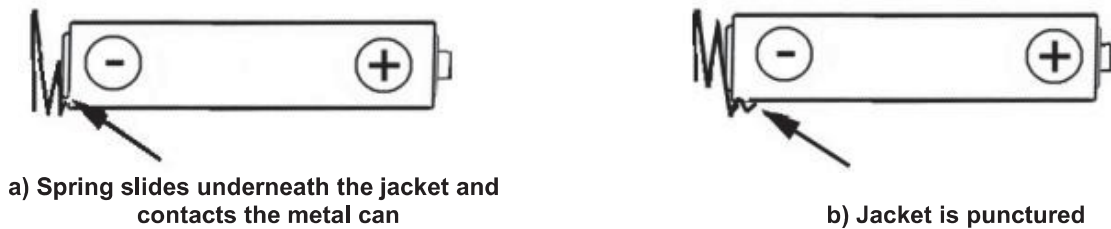

Figure 2 – Examples showing distorted spring
15.3 Electrical contact parts and extreme materials and shapes should be appropriate to enable them to form and maintain effective electrical contact. Materials should be materials with strong conductivity, high corrosion resistance, not easy oxidation and elasticity (such as nickel-plated stainless steel). Shapes and styles should avoid causing short circuit of batteries (such as positive and negative spring shrapnel piercing trademarks and causing positive and negative battery conduction, as shown in Figure 2). The negative end of the battery cabin should have a bulge that can fully contact the negative electrode of the battery.